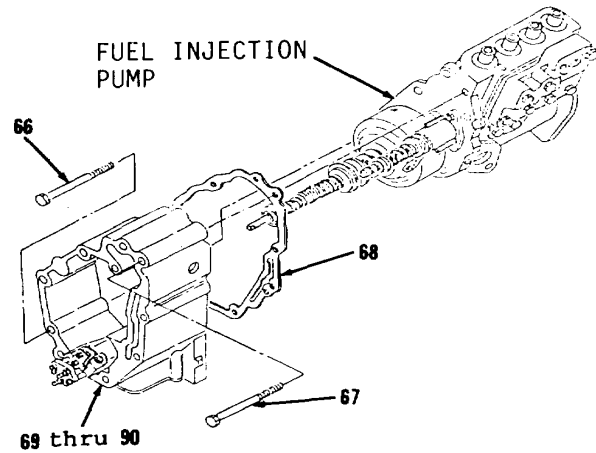
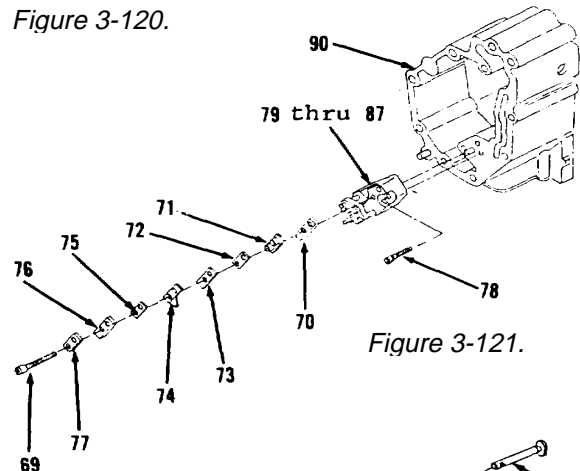

Figure 3-120.
Figure 3-121.
31. Remove bolts (66 and 67, Figure 3-120) from fuel injection pump and governor center housing.
32. Separate items 69 thru 90 as an assembly and gasket (68) from fuel injection pump. Discard gasket (68). Remove all gasket material from mounting surfaces.
33. Remove two bolts (69), bar (70), insulator (71), shim (72), spring (73), contact (74), spacer (75), bar (76) and retainer (77) from housing (90, Figure 3-121) and separate.
34. Remove two bolts (78) and items 79 thru 87 as an assembly from housing (90).